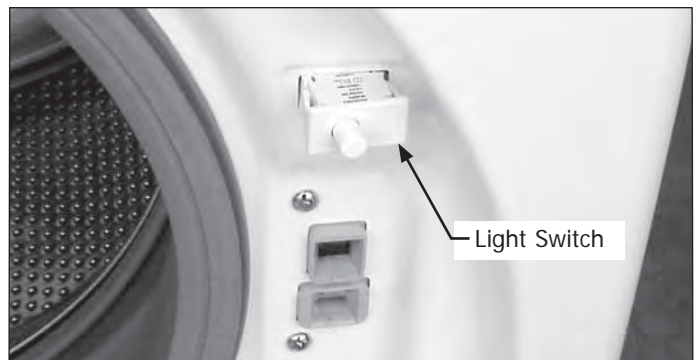

Figure 4-9.
3. Squeeze the tabs on the sides of the switch and push the switch out the front of the washer. (See Figure 4-9)